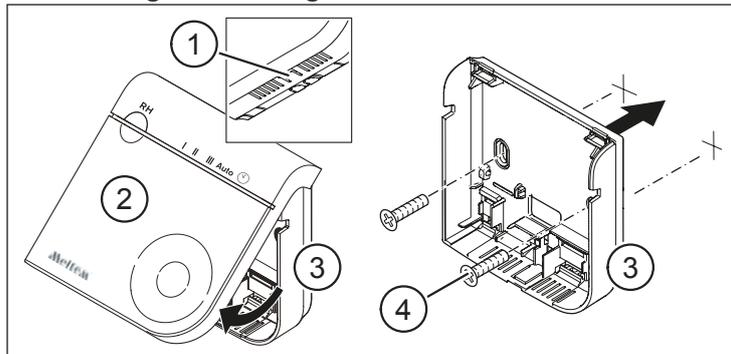

Fig. 2: Fixing the housing to the wall
- ▶ Press the tab (item 1 in Fig. 2) on the underside of the housing (item 3 in Fig. 2) and pull the cover (item 2 in Fig. 2) away from the housing.
- ▶ Use the screws (item 4 in Fig. 2) and dowels provided to fix the housing in the desired position.